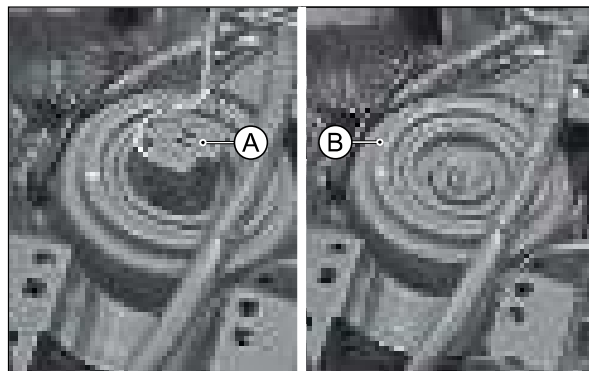

Fig. 5.74
- Pullout the socket head lamp (A) from head lamp bulb and dislocate the dust cap (B) of head lamp assembly. (Fig. 5.74)